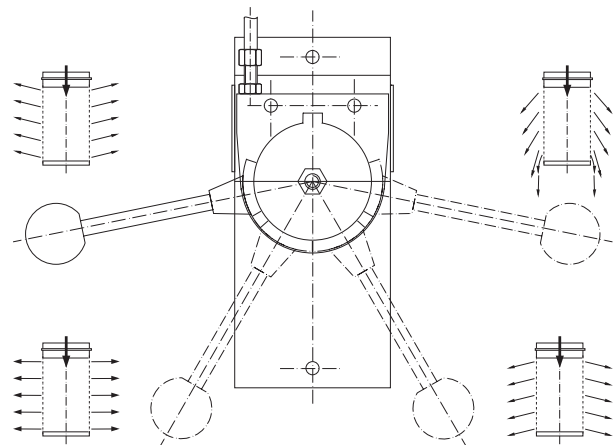

Fig. 8: Manual alteration of discharge direction via
a) with a **Bowden cable** which is linked to a control lever fixed to a support for wall or pillar mounting and enables the stepless setting of different air discharge directions (Fig. 8).
Adjustment with Bowden cable or chain pull is to be preferred for outlet placement in front of a wall or pillar (Fig. 8).